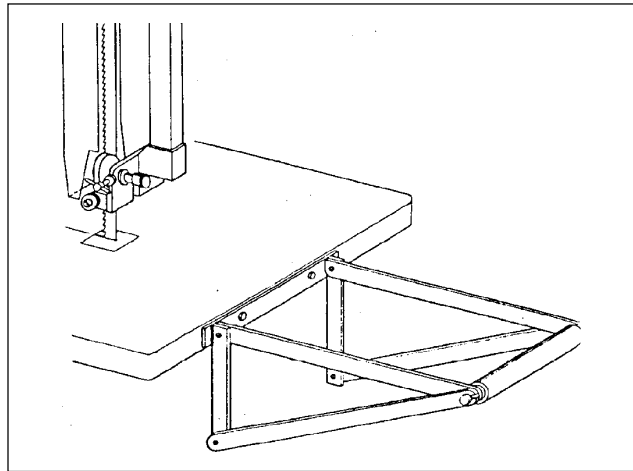

Fig. A-8 Additional supports
A.4.2 Additional supports for the piece, such as table extensions or roller conveyors must always be used for long pieces (see figure A-8) since the piece tilting over is a common cause of accident.